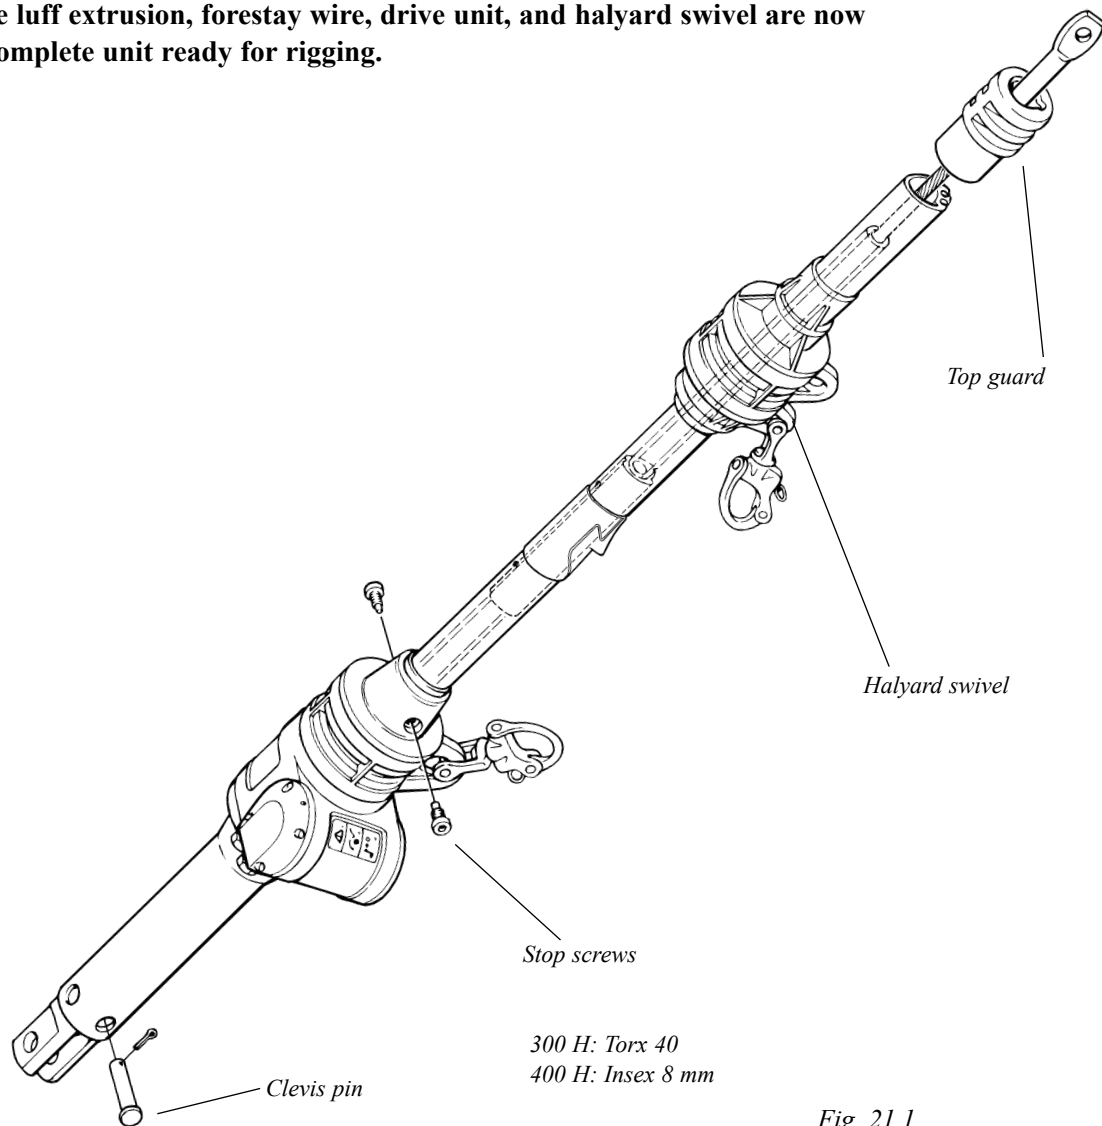

Fig. 21.1
1. Take out the stop screws holding the luff extrusion. (See fig. 21.1)